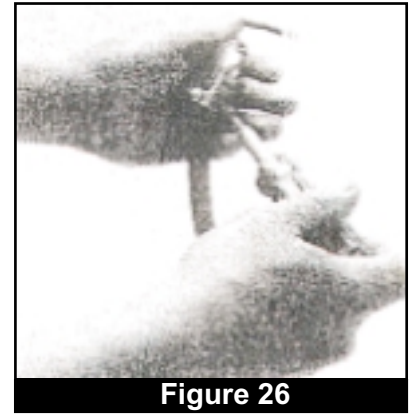

Figure 26
6. Remove the two screws that secure the power cord into the compression end of the elbow connector with a medium (6") flathead screwdriver. Pull gently to free power cord from the elbow connector. (Fig. 26)